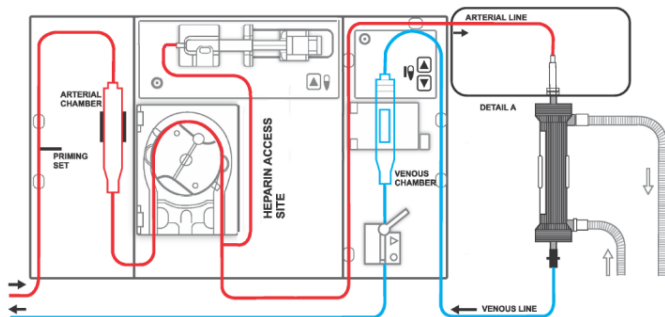

Figure 3: Bloodline/Machine Interface of Hemodialysis Machine
2. Roll the venous drip chamber into the venous level detector with filter below sensor heads. See Figure 3. Close and latch door.